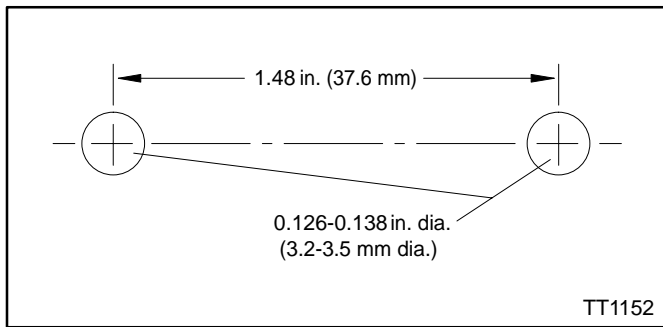

Figure 2. Relay Mounting Holes
9. Drill the mounting holes for the new relay. See Figure 2. Locate the new relay mounting holes as close to the old relay location as possible.